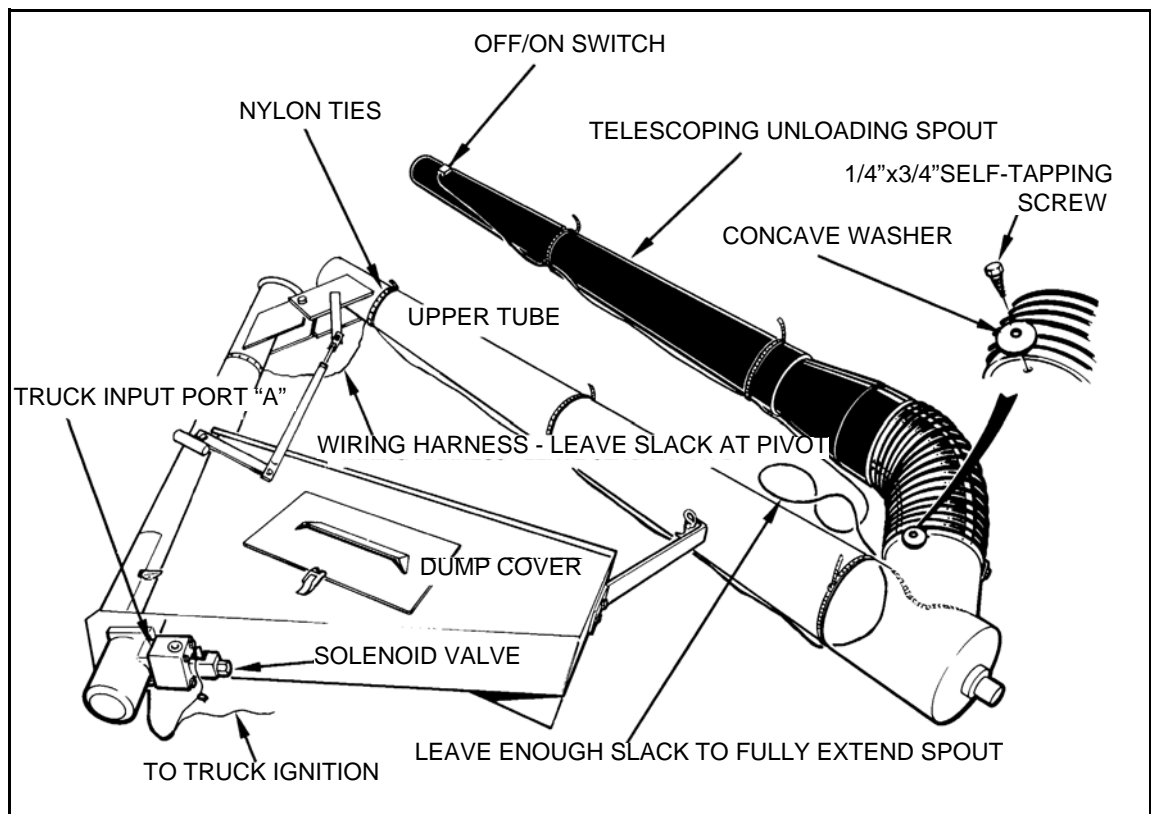

Figure 3.10 Switch
2. Leaving some slack at the solenoid, route the wiring harness up the back side of hopper and tube sections, outside the pivot brackets. Secure with 7 nylon ties (Figure 3.10)
3. Mount OFF/ON switch to the pre-drilled holes near the telescopic unload spout handle with two 1/4" x 1/2" bolts and whiznuts (Figure 3.10).
4. Secure the wiring harness to telescopic unload spout with nylon ties (Figure 3.10).